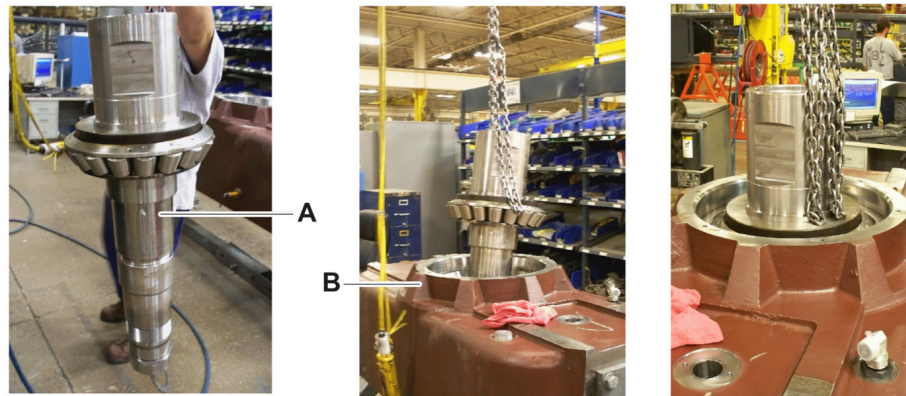

Figure 2
3. Carefully flip the spindle (Figure 2, item A) with the bearing cone sub-assembly as shown.